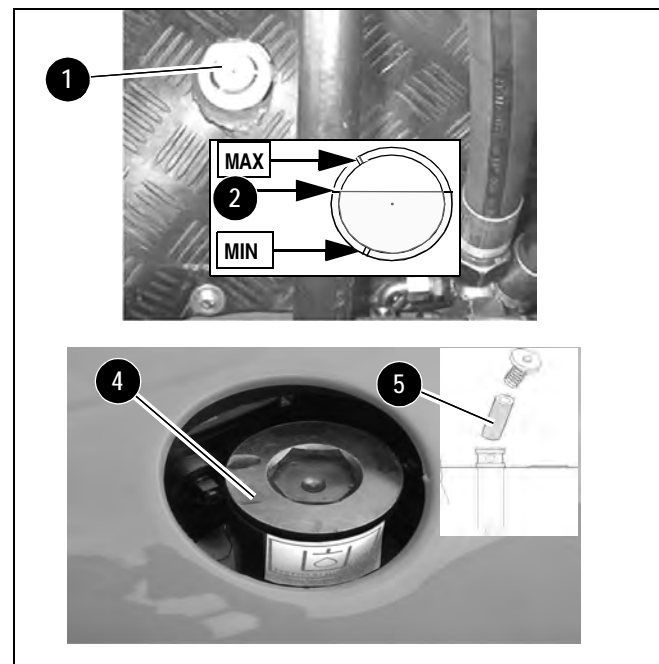

Figure 4-13 Hydraulic Reservoir
5. Check the hydraulic oil level sight gauge (1, Figure 4-13). Oil level should be approximately at the point shown at (2).
- b. Slowly open the hydraulic oil filler cap (4) and then remove the cap.